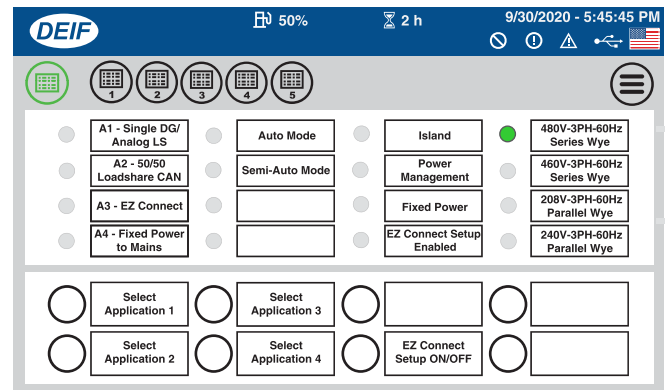
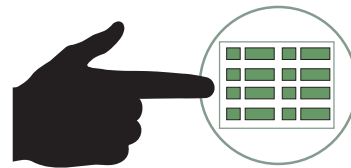
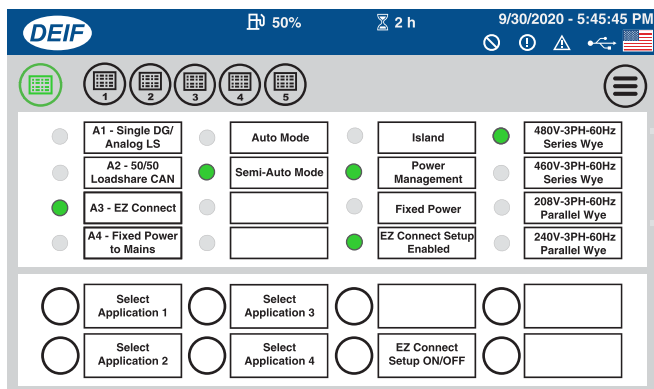

Figure 118. Main AOP Screen
Figure 119. Main AOP Button
Figure 135. Main AOP Screen
2. Verify that the **Main AOP screen** (Figure 118) is displayed.
3. If the Main AOP screen (Figure 118) is not displayed, press the **Main AOP button** (Figure 119).
21. Verify that the **Main AOP screen** (Figure 135) is displayed. If the Main AOP screen is not displayed, press the **Main AOP button** (Figure 119).
22. Verify that the **Power Management status indicator** (Figure 135) is **ON (GREEN)**.